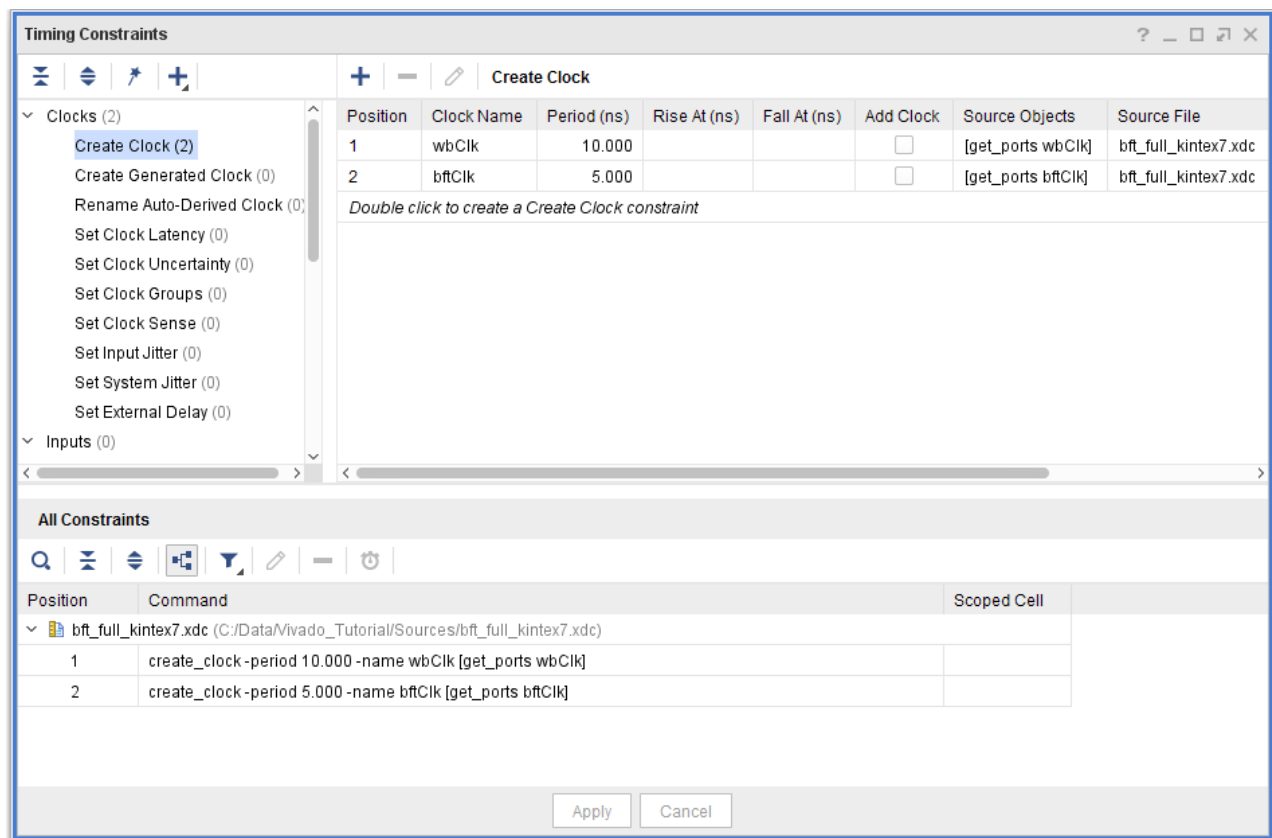

Figure 3: Define Timing Constraints
- In the left hand tree view of the Timing Constraints window, double-click **Create Clock** under the Clocks category, as shown in Figure 3.